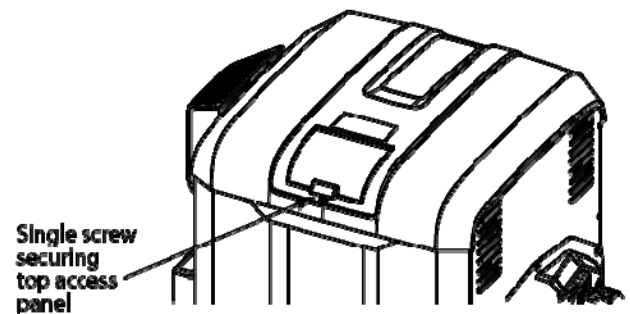

Figure 12: Top Access Panel Screw Location
1. Remove the single screw securing the top access panel to the cabinet top (see Figure 12).